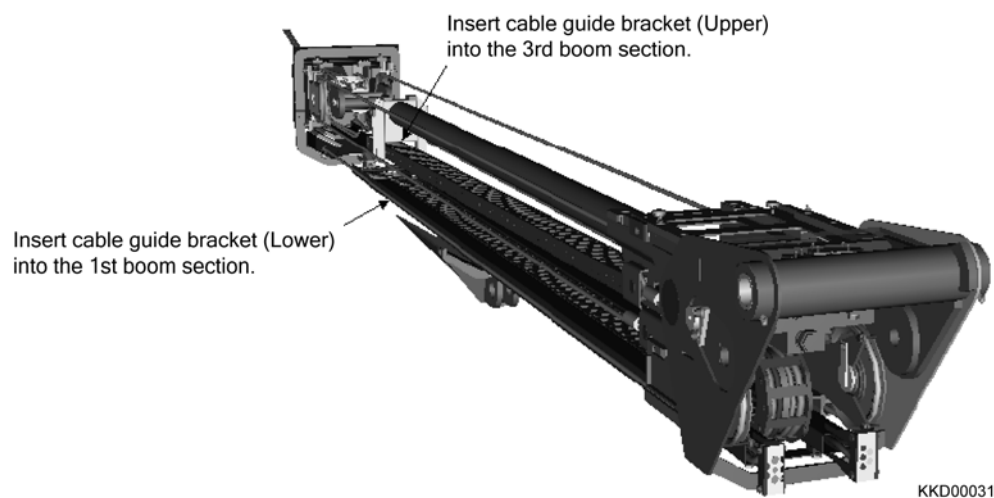

Fig. 2-65
- 10) Insert the cable guide into the boom section. (Fig. 2-65)